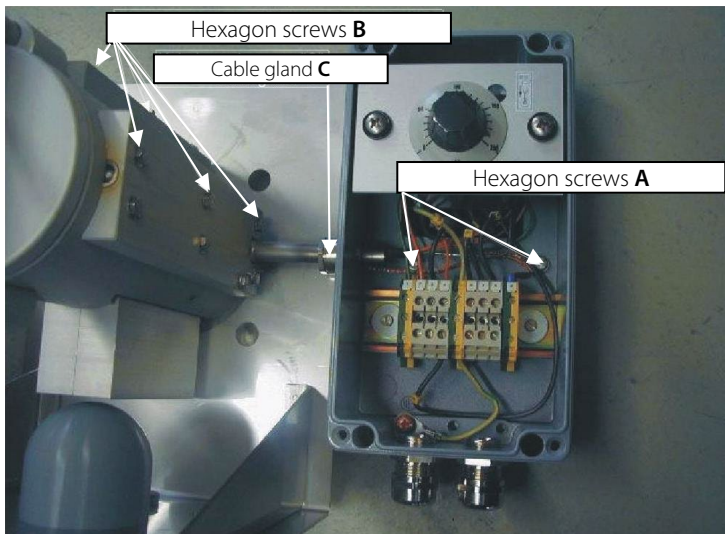

Figure 21 Position of fixing screws: connection box, thermostat sensor, heating cartridge carrier plate
4. Unscrew the two hexagon head cap screws **A** (Figure 21) in the back board of the connection box with which this one is mounted to the retaining plate.
5. Unscrew the hexagon head cap screws **B** (Figure 21) for the fastening of the heating cartridge retaining plate and the thermostat sensor retaining plate.
7. Loosen the cable gland **C** (Figure 21) for the heating cartridge and the capillary tubes of the thermostat.
10. Draw the heating cartridge through the cable gland **C** (Figure 21) out of the connection box.